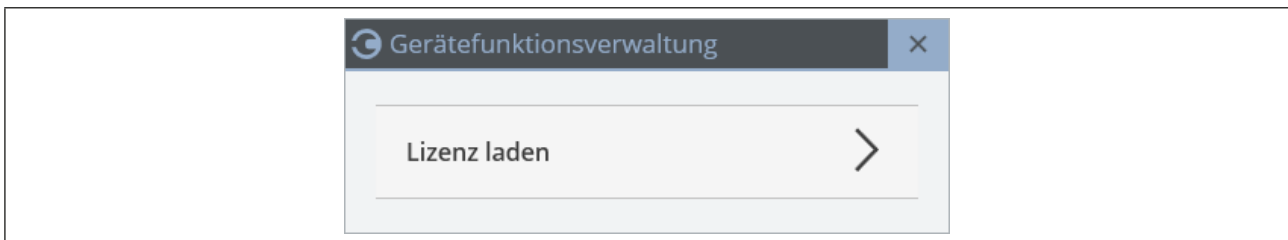

Fig. 51: Load licence
- **Load licence** (see “Fig. 51: Load licence”)